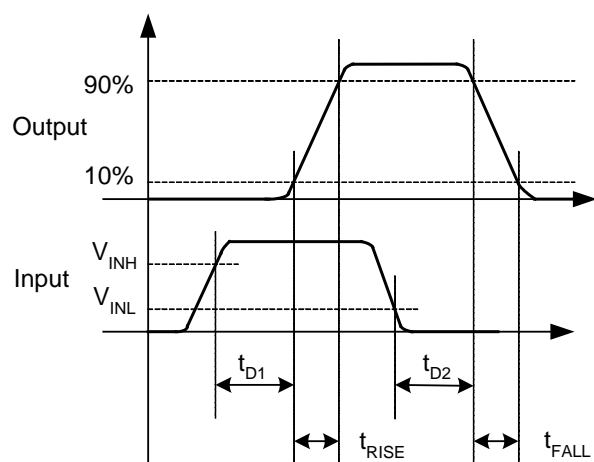
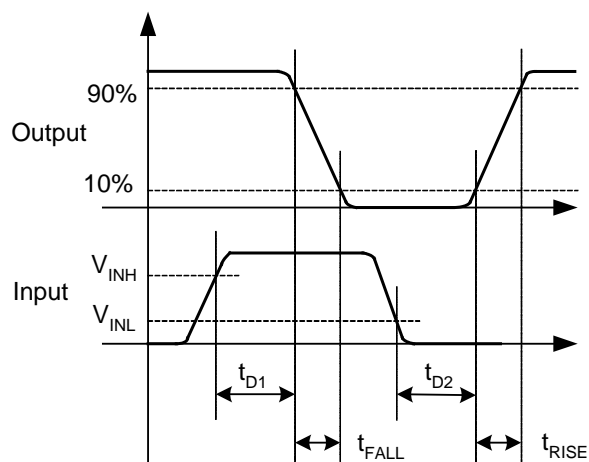

Figure 7. Non-Inverting
Figure 8. Inverting
10. See Timing Diagrams of Figure 7 and Figure 8.